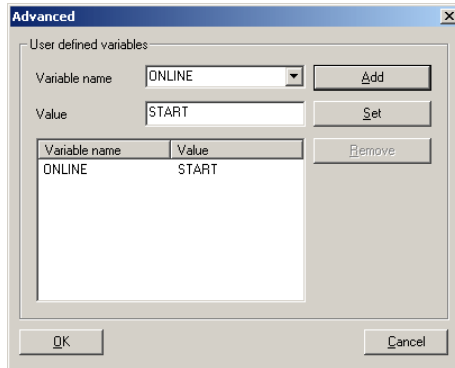

Figure 5 Entering the variable
6. In the **Advanced** window, enter the supported MPE/iX variable, for example `ONLINE` with the value `START`. See Figure 5 on page 33.